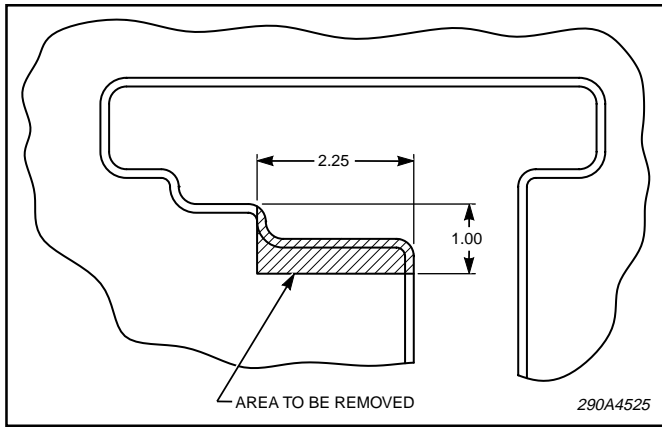

Figure 6.
7. See figure 6. Remove area indicated in the plastic panel (removed in step 2) as shown.